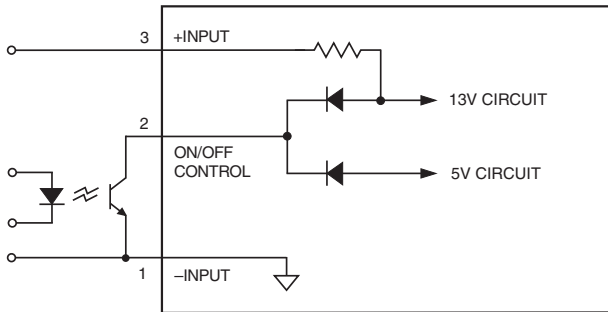

Figure 8. Driving the Negative Polarity On/Off Control Pin
**Positive** (no suffix): standard models are equipped with Positive-polarity and are enabled when pin 2 is left open (or is pulled high, applying +3.5V to +13.5V with respect to  $-Input$ , pin 1) as per Figure 8. Positive-polarity devices are disabled when pin 2 is pulled low (0 to 0.8V with respect to  $-Input$ ).